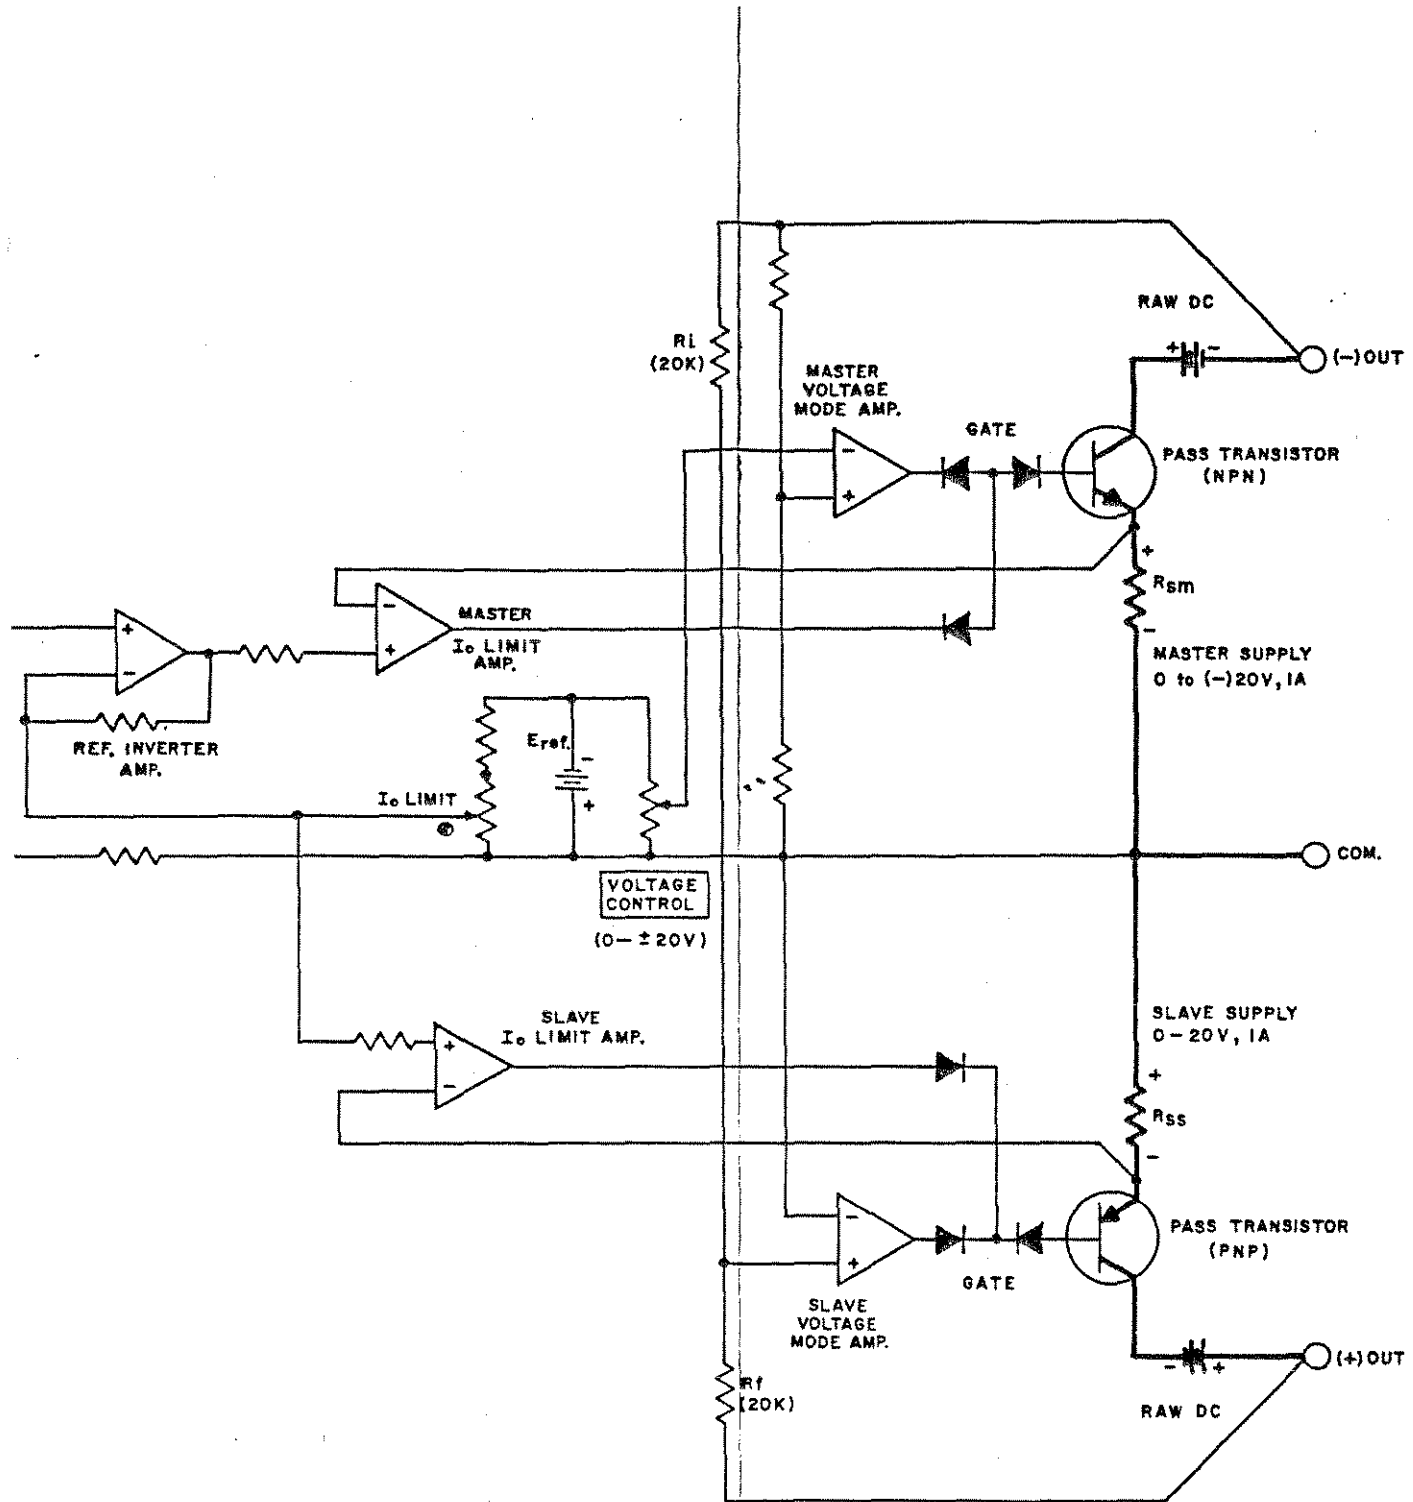

FIG.4-3 SIMPLIFIED SCHEMATIC DIAGRAM, $\pm 20V$, 1A SUPPLY
- 4-6 ($\pm 20V$, 1A SUPPLY, SEE FIG. 4-3). This is a (\pm) 20V, 1A stabilized dual tracking power supply in a master/slave configuration, with variable current limit. As seen from FIG. 4-3, the RAW D-C sources of the MASTER and the SLAVE sections are connected in series with their respective NPN and PNP PASS TRANSISTORS, their sensing resistors (R_{SM} and R_{SS}) and the external load across the output terminals. The PASS TRANSISTORS change their collector/emitter potentials in response to either their associated VOLTAGE MODE AMPLIFIERS or their I_O LIMIT AMPLIFIERS.